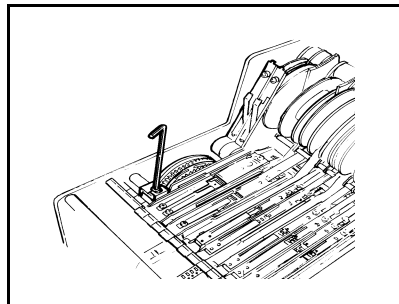
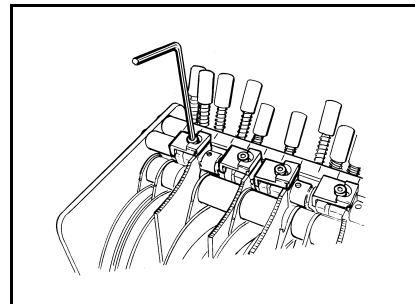

Figure 5-32. Lower bracket.
Figure 5-33. Upper bracket.
2. Fasten the lower bracket (Figure 5-32) and then the upper bracket (Figure 5-33). Some feeder types may lack the lower bracket, for instance the 56 mm type. In these cases you only fasten the upper bracket.